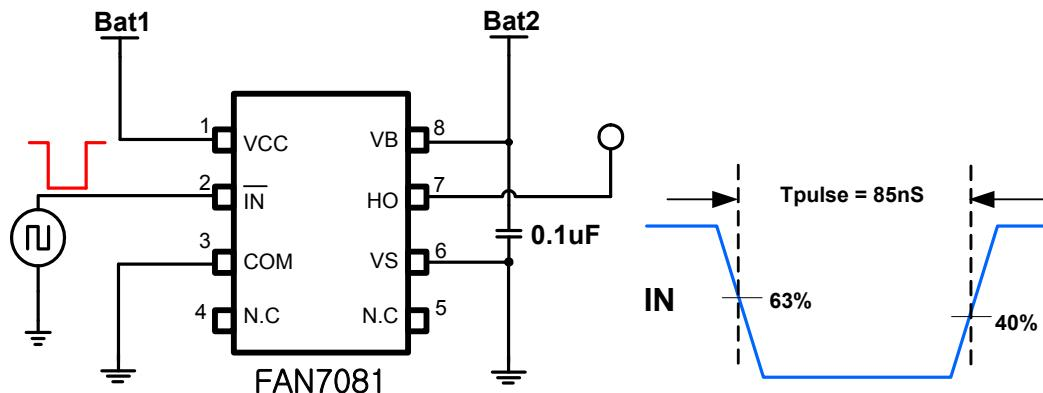

Figure 4a. Short Pulse Width Test Circuit and Pulse Width Waveform
3) Guaranteed by design. Refer to Figure4a,4b and 4c on Page 8.